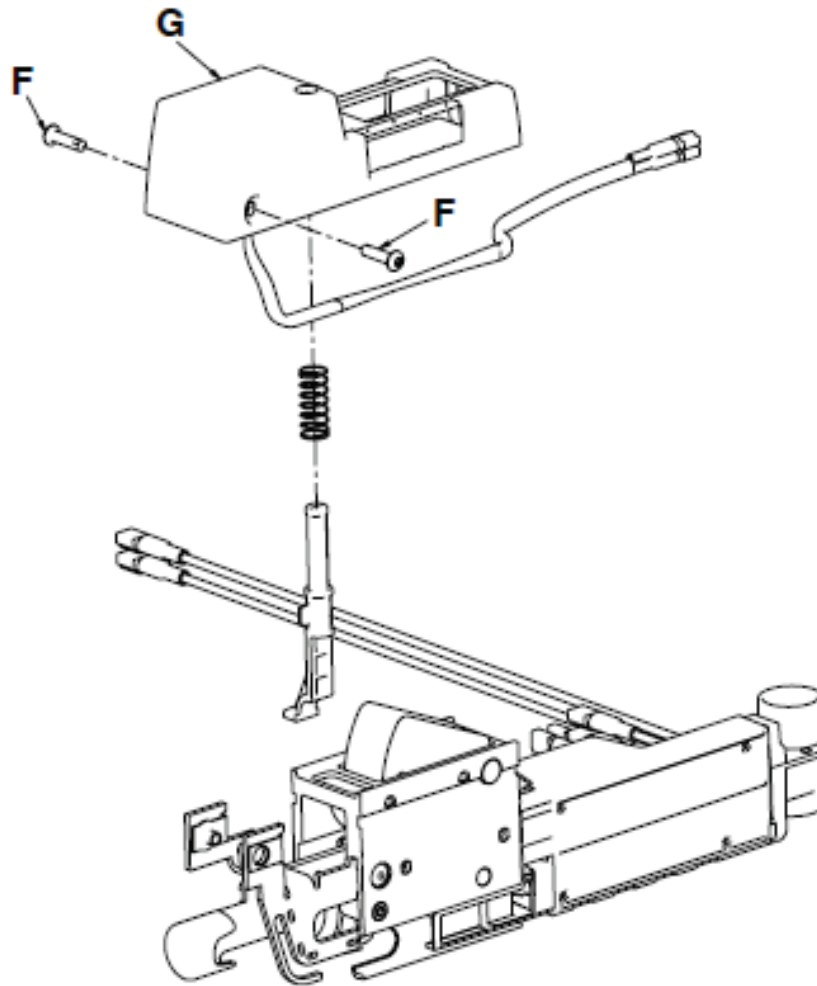

Figure 46 – Remove the anchor housing assembly
12. Using a 1/8" hex wrench, remove the two button head cap screws (F) that secure the anchor housing assembly head end to the anchor pawl assembly. Remove the anchor housing assembly (G) (Figure 46).